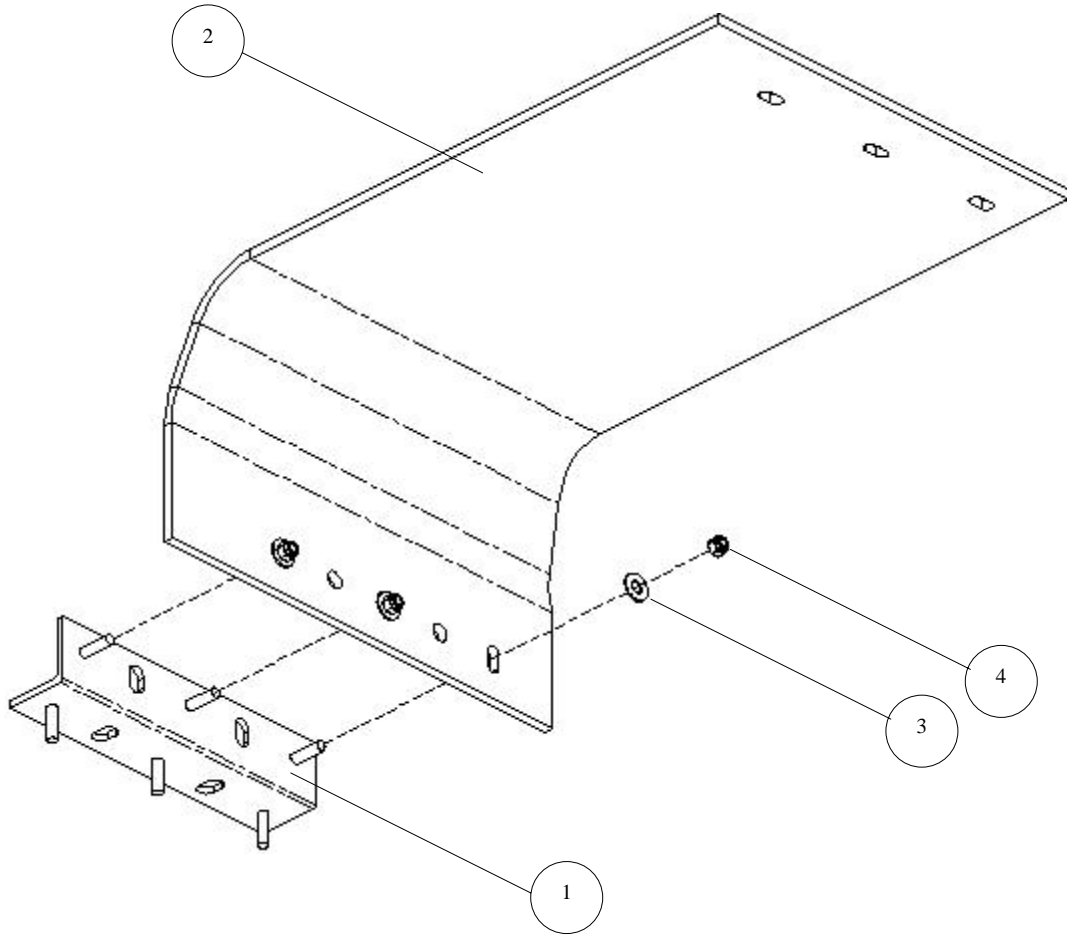

Figure 3-29. Upper Wheel Well Panel Pre-Assembly.
4. Pre-assemble upper wheel well panel as follows (see Figure 3-29):
- a. Install one 90-degree joiner bracket (1) onto upper wheel well panel (2) and secure with three flat washers (3) and locknuts (4). Do not tighten locknuts.